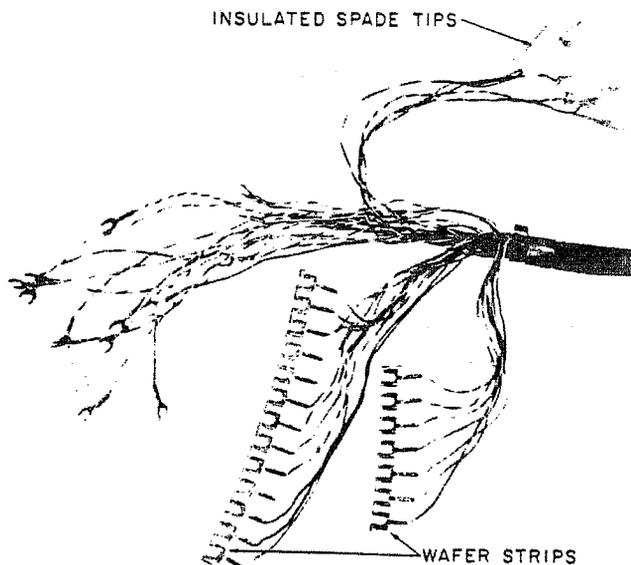

Fig. 2—Slotted Wafer Strip End of Mounting Cord, Later Type
2.05 Mounting cords of later manufacture feature a slotted wafer strip (Fig. 2) to facilitate replacement.